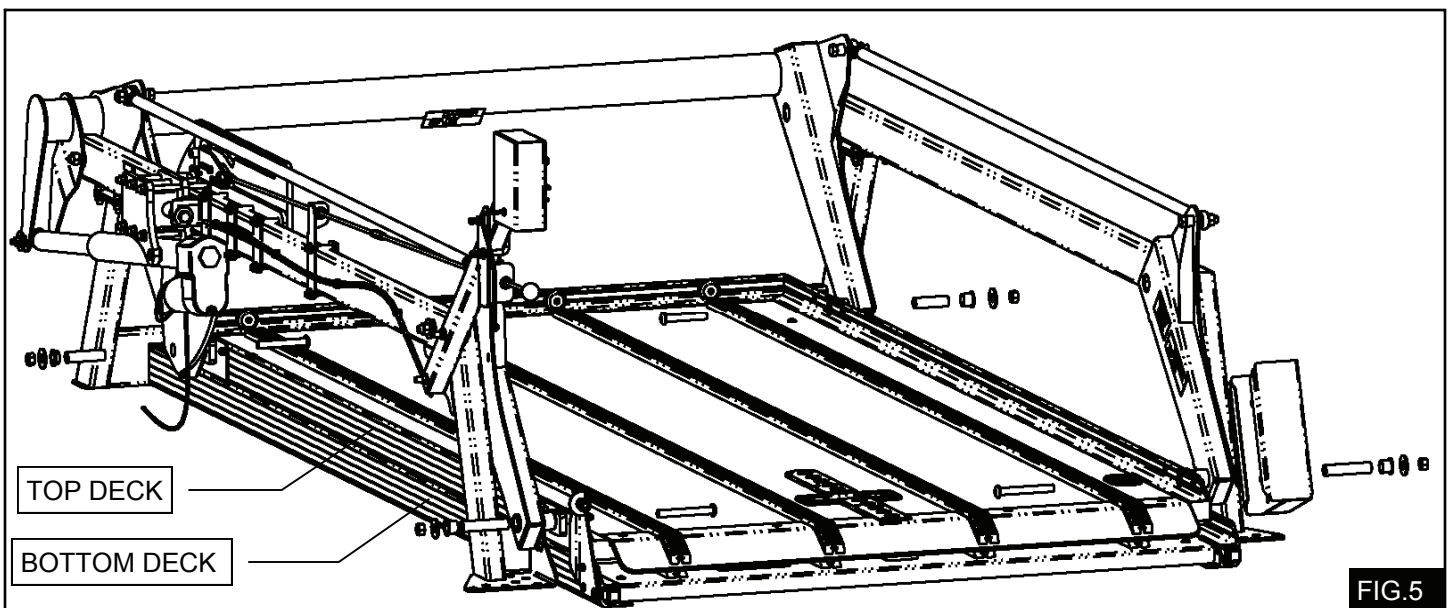

FIG.5
6.8 Place the top deck in the vehicle on top of the 2x4s. (**FIG.5**) Attach the top deck and deck latch bar to the torsion tube pivots in front with (1) 1/2 X 3-1/4 (passenger side) and (1) 1/2 X 3 3/4 (drivers side) socket button head screws, and locks nuts. Attach the top deck to the rear swing arms using (2) 1/2 X 4-1/4 socket button head screws, bushings, and lock nuts. Once the top deck is installed, raise deck slightly and remove the 2x4s.